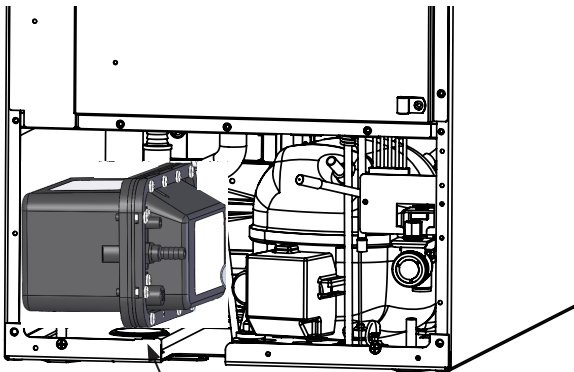

Figure 42
6. Rotate the drain pump and remove from the ice machine, (See Figure 42). It may be necessary to disconnect the ground wire connection in the back flange of the cabinet. (See Figure 38).